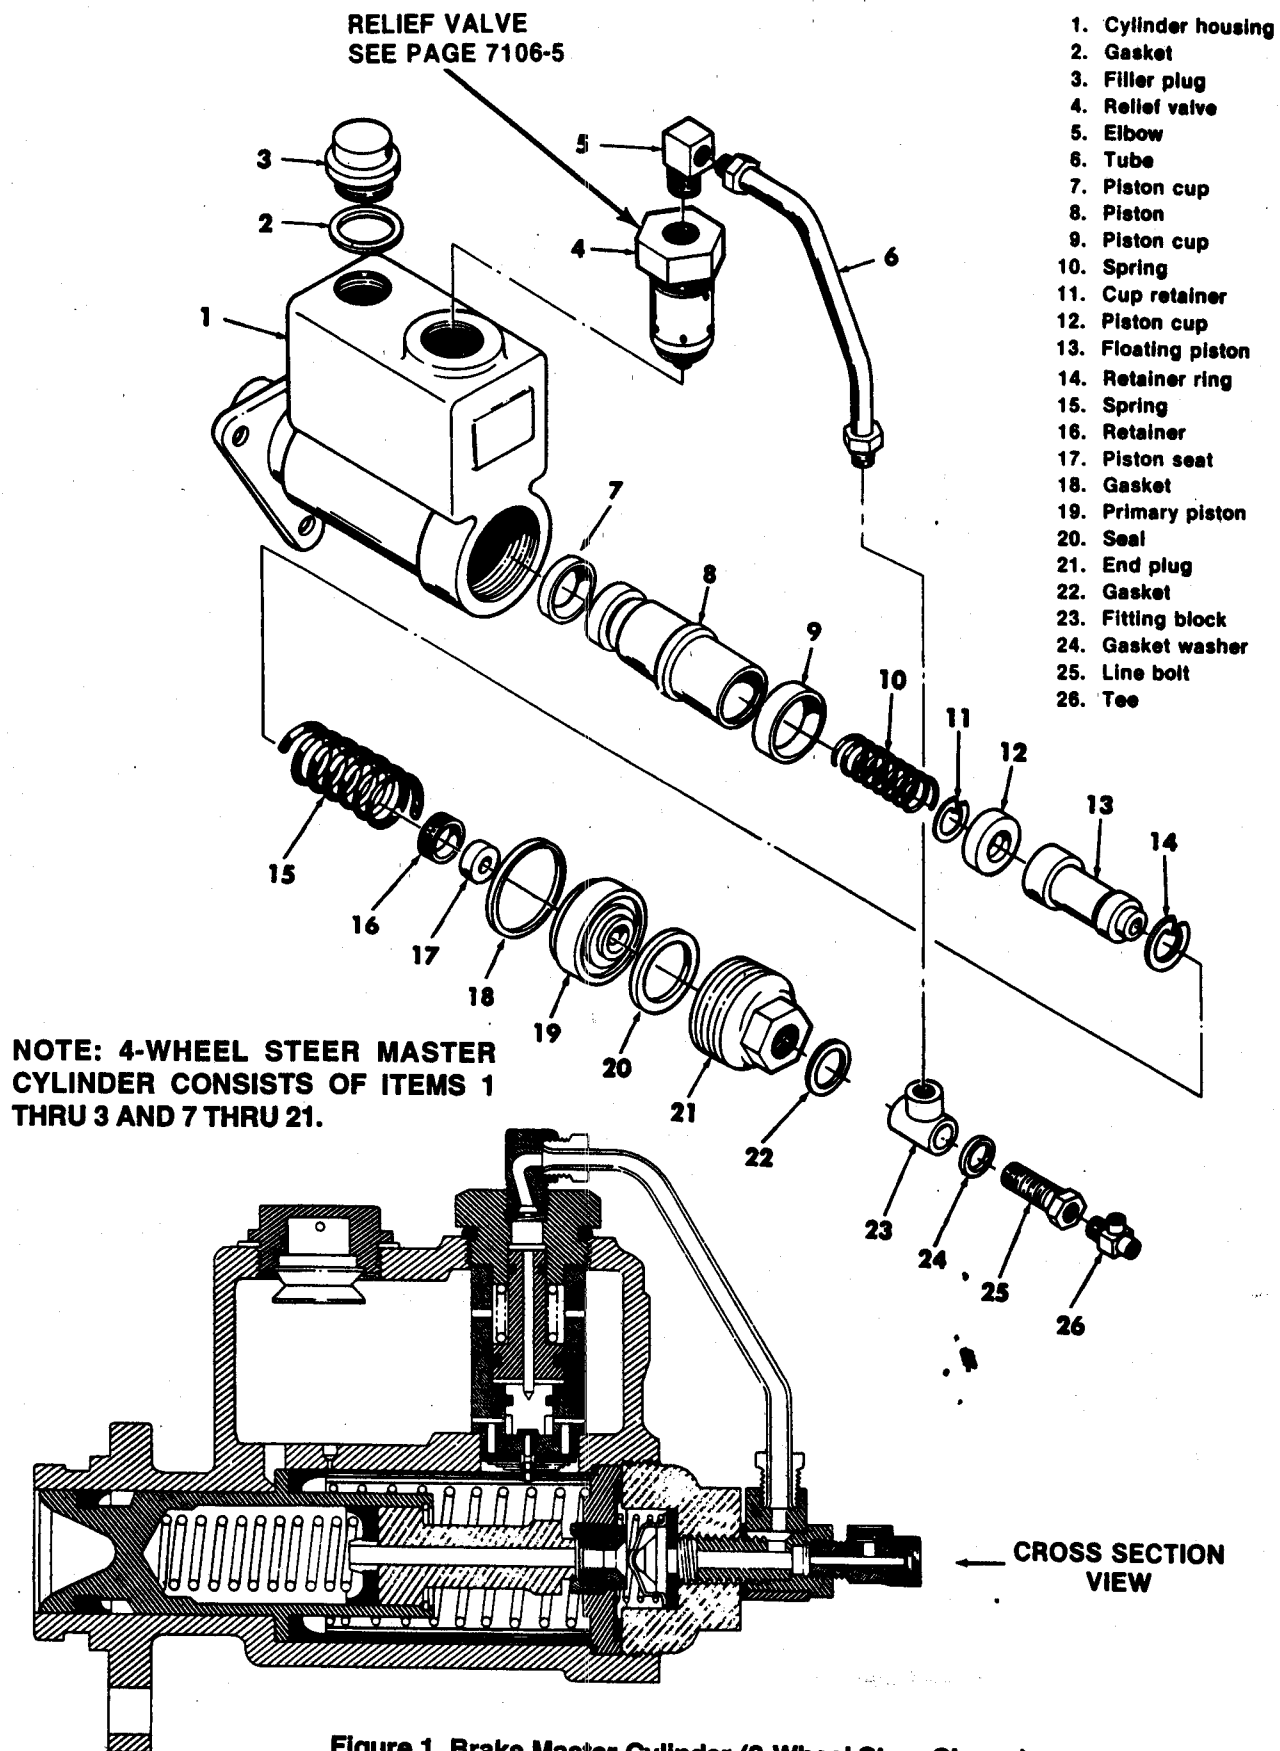

Figure 1. Brake Master Cylinder (2-Wheel Steer Shown)
2. Disconnect the tube (6) from the elbow (5) and the fitting block (23). See Figure 1.
3. Remove the relief valve (4).
4. Loosen the line bolt (25). Remove the line bolt (25), gasket washer (24), fitting block (23) and gasket (22).
5. Remove the end plug (21) from the cylinder housing.
6. Remove the primary piston (19). Disassemble the primary piston:
- a. Remove the gasket (18) and then remove the seal (20).
- b. Remove the retainer (16) and the piston seat (17).
7. Remove the spring (15) from the cylinder housing.
8. The piston (8) and floating piston (13) are fastened together by a retainer ring (14). Remove piston and floating piston assembly.
9. Remove the retainer ring (14) from the piston to